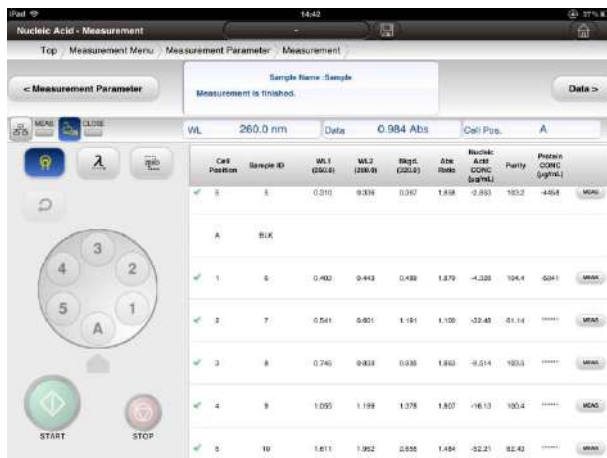

Fig. 4-62 Example of the Window After Sample Measurement (Sample Number: 10)
- (5) When measurement of the set number of samples is completed, the window shown in Fig. 4-62 will be shown.